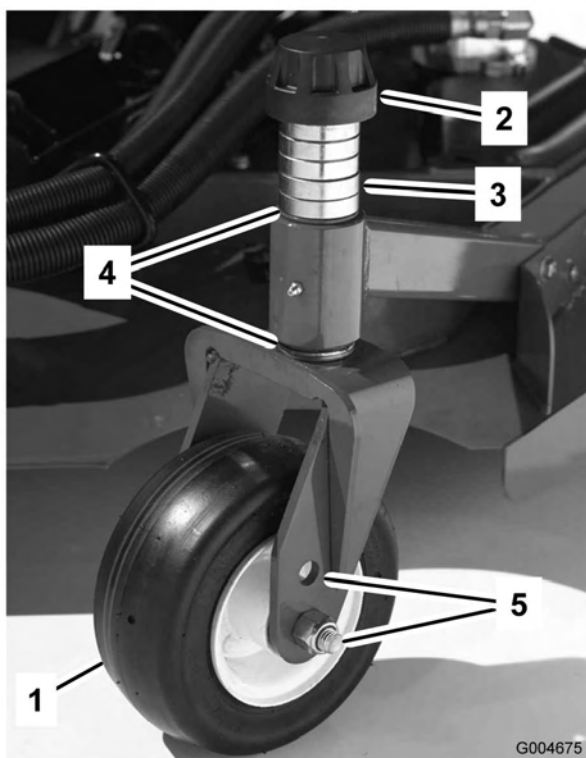
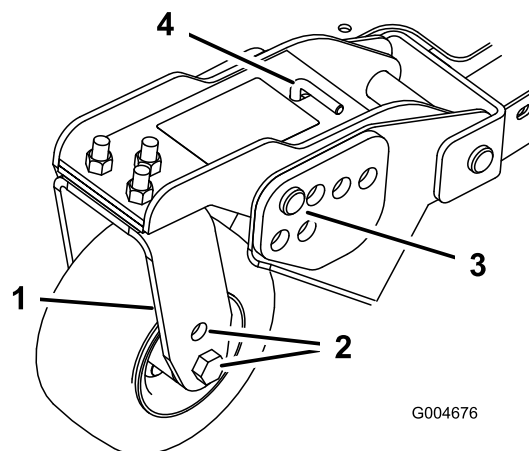
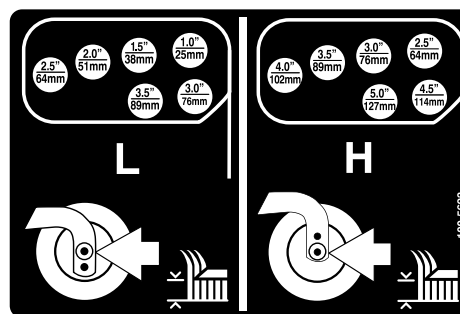

Figure 18
Figure 20
Figure 21
1. Position the castor wheel axles in the same holes in all of the castor forks (Figure 18 and Figure 20). Refer to the following chart to determine the correct hole for the setting.
2. Remove the tensioning cap from the spindle shaft (Figure 18) and slide the spindle out of castor arm. Put the two shims (1/8 inch [3 mm]) onto spindle shaft as they were originally installed. These shims are required to achieve a level across the entire width of the cutting units. Slide the appropriate number of 1/2 inch spacers onto the spindle shaft to get the desired height-of-cut; then slide the washer onto the shaft.
4. Remove the hairpin cotter and clevis pins from the castor pivot arms (Figure 20).
height-of-cut bracket holes in the cutting unit frame (Figure 20 and Figure 21).